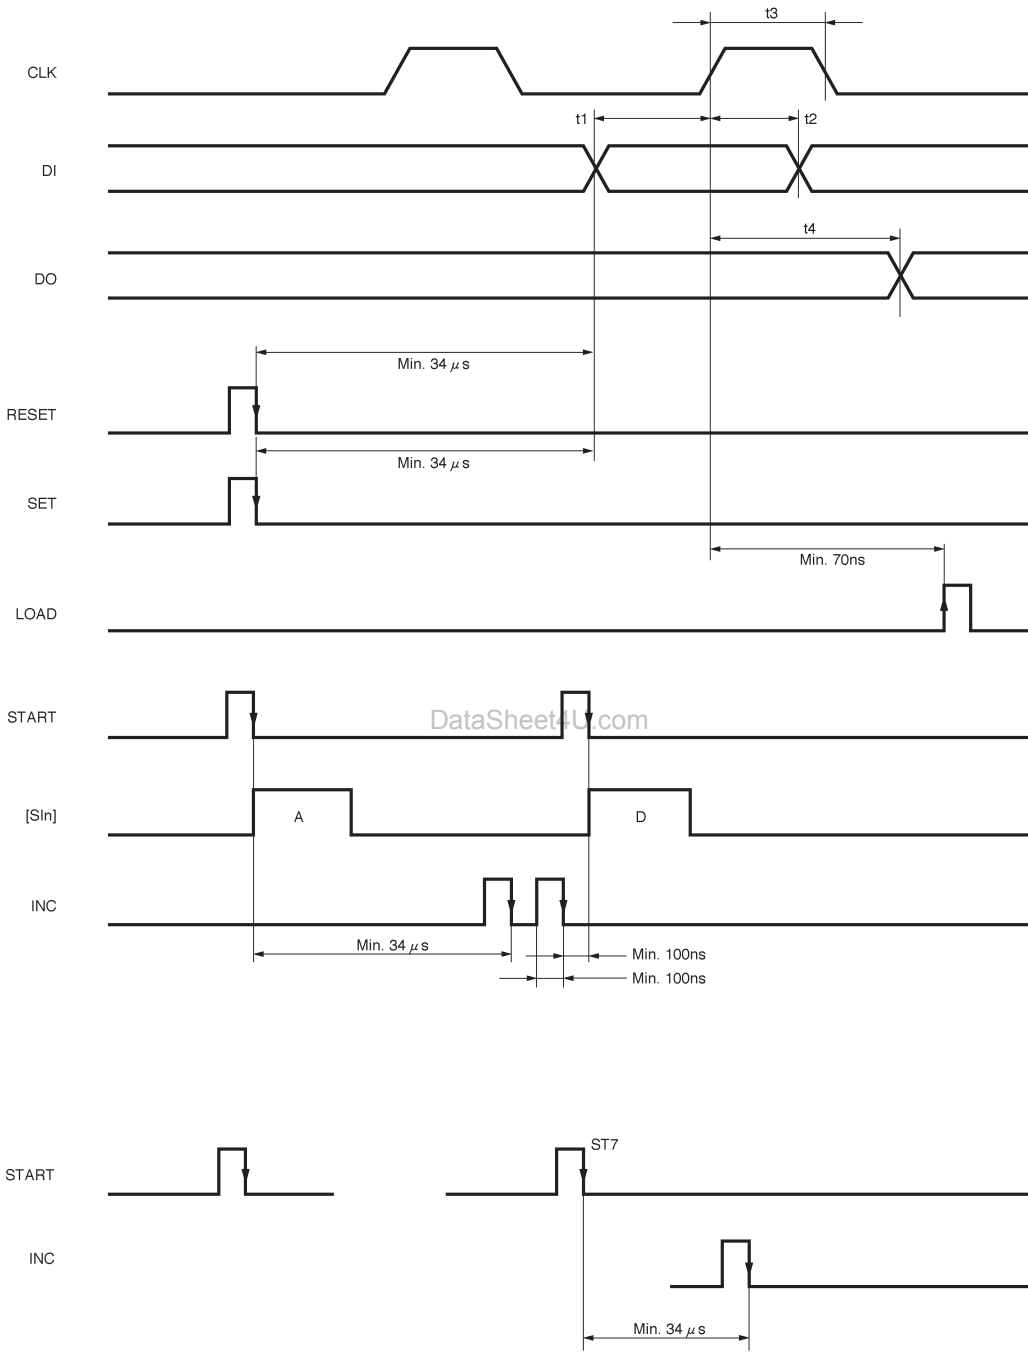

Fig.2
- INC** :Supports the increment function from level 1 to level 6. One level is incremented for one pulse. (See Fig. 2)
- RESET** :Sets all data at "LOW". Clears data when printing is resumed after a pause. (See Fig. 2)
For two-part split printing, enter INC after 34 μ seconds of START7. (See Fig. 2)